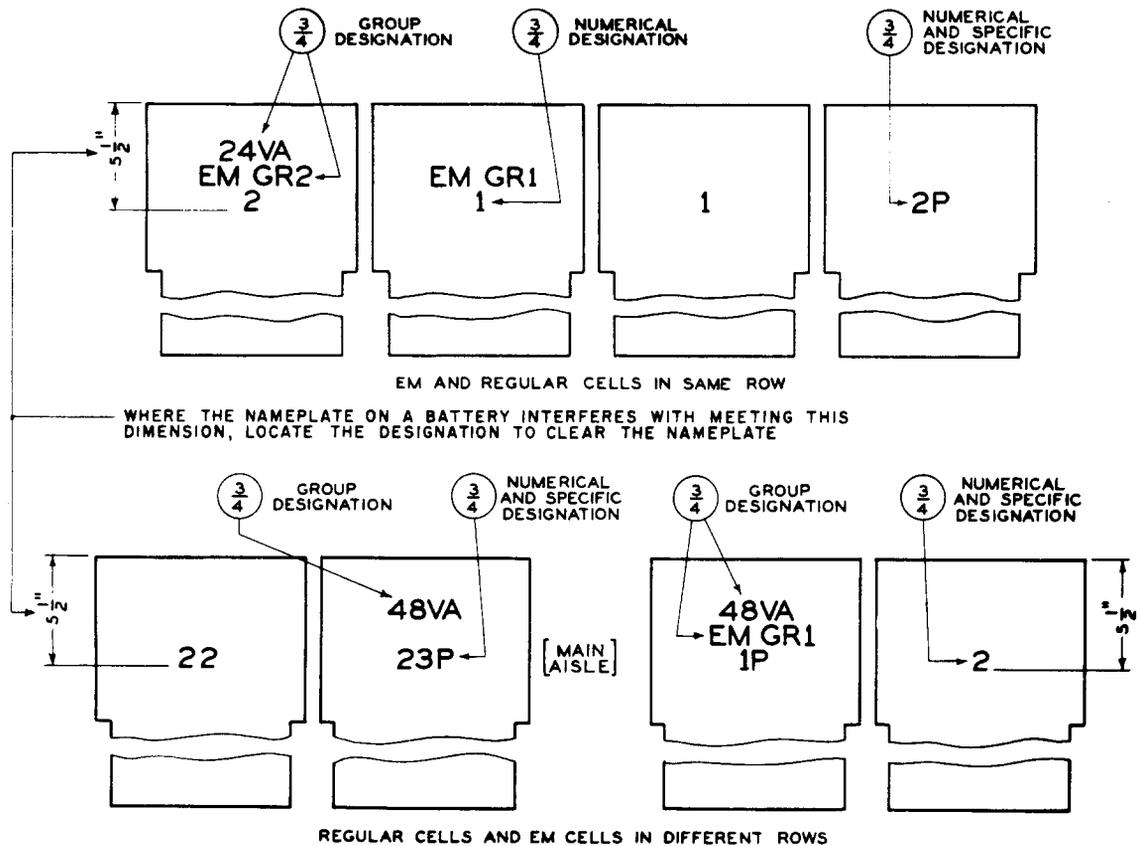

Fig. 3 - Floor-Mounted Tank Storage Cells
2.07 Floor-Mounted Tank Batteries: Designate each cell on the main aisle only in the location shown in Fig. 3.